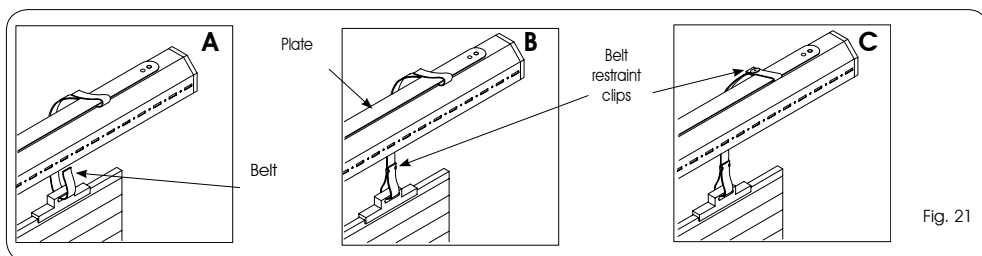

Fig. 21
1. Route the belt through the opening in the roller shutter (Fig.21 ref.A)
3. Route the belt first under and then above the roller plate. (Fig.21 ref.A-B)
4. Fit the clips and adjust the length of the belt so that it is slightly tightened. (Fig.21 ref.B-C)